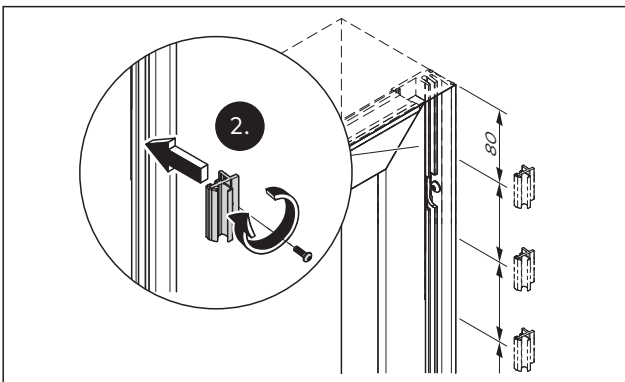

Fig. 21 Screw the fixed glazing adapter profile
2. Screw the fixed glazing adapter profiles with at least 3 glass clamping pieces per meter with a torque of 5 Nm (Fig. 21).